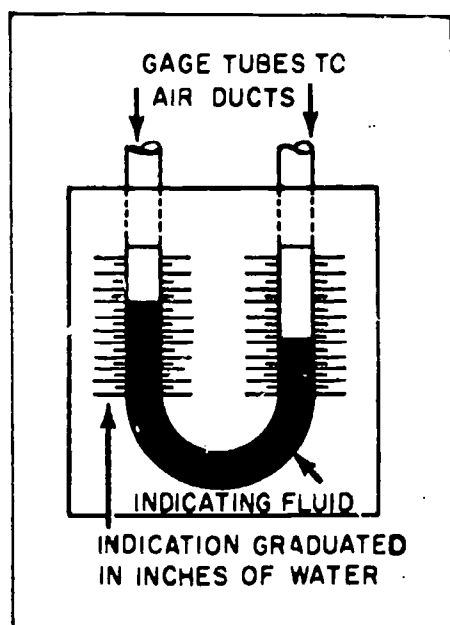
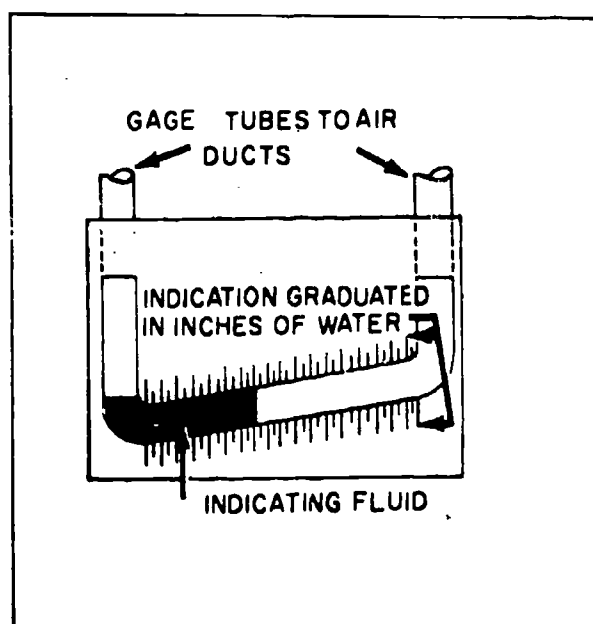

Fig 1-11. U-type manometer.
Fig 1-12. Slant-type manometer.
a. Airflow. Proper distribution of the cooled air is vital to the satisfactory operation of an air-conditioning unit. To calculate the volume of air in cubic feet per minute needed per ton of refrigerant capacity, the following factors must be known: (1) The predetermined difference between inside air (inside dry-bulb design temperature) and the temperature of the air leaving the cooling coils, and (2) the sensible heat load of the conditioned space. After the volume of air delivery has been determined, the system can be checked for proper operation by measuring the air velocity at coil faces, grilles, and in the interior of ducts (there are various instruments used to measure the air velocity). Any reduction in the amount of air that is being delivered will indicate that either the flow of air is being blocked by the accumulation of frost, scale, or dust on the evaporator coils; or that improper maintenance of the blower and associated duct work is causing a loss of efficiency. The most common instruments used to measure air velocity are the manometer, pitot tube, anemometer, and the direct-reading velocity meter.
b. Manometers. There are two types of manometers used to measure air velocity: the U-type (fig 1-11) and the slant type (fig 1-12).